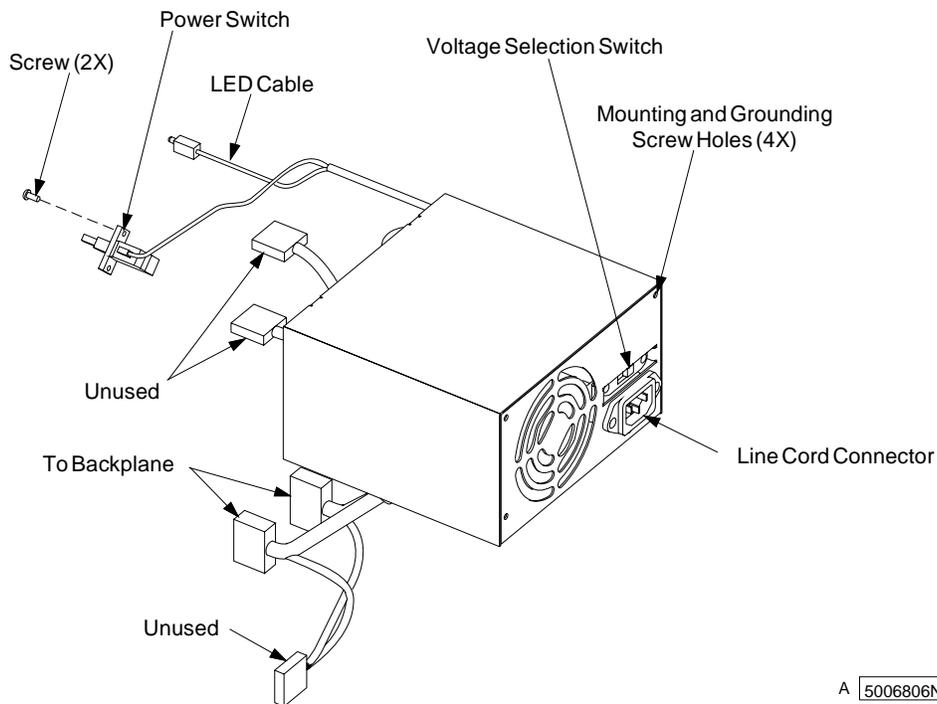

Figure 3-16. Power Supply
- 6 Disconnect the power supply cables from the backplane. See Figure 3-16 on page 3-19.
- 8 Disconnect the LED cable from the control panel. See Figure 3-16 on page 3-19 and Figure 3-17 on page 3-20.
- 9 Remove the two screws holding the power switch to the chassis. See Figure 3-16 on page 3-19.
- 10 Remove the cable ties (3) from the power supply cable and power cable.